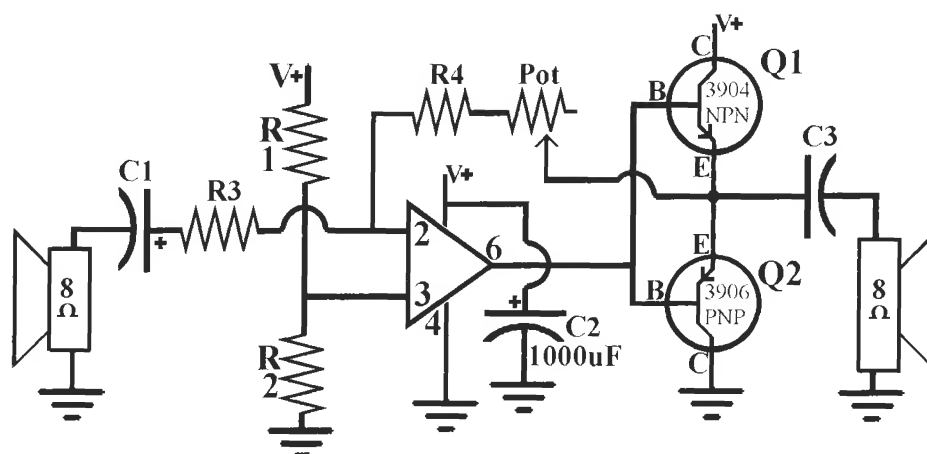

Figure L54-3
- Now set this second speaker into your SBB as shown here in Figure L54-3.